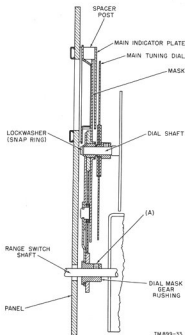

Figure 32. Dial mask assembly, sectional view.
Before attempting removal of the front panel of the receiver turn the chassis on its side and locate the dial mask gear bushing (figs. 32 and 34). Observe the position of the bushing and turn the RANGE switch until the bushing setscrew ((A) in fig. 32) is exposed in proper position to admit the setscrew wrench supplied with the receiver. Note the RANGE switch setting carefully; after reassembly of the receiver dial drive and panel, the switch and mask must be replaced and mated for the proper mask opening and switch setting. For disassembly procedure, see *a* below.
- (5) From the top rear of the receiver, remove the dial indicator plate by releasing the two screws that hold the plate to the spacer posts (figs. 32 and 33).
- (7) Removal of the front panel will expose the dial mask assembly (figs. 32 and 34). Loosen the setscrew (A) mentioned at the beginning of this paragraph, remove the two screws (B) that hold the assembly to the chassis, and remove the snap ring at the end of the dial shaft. The assembly is now free and can be removed; slip it from both shafts evenly to avoid burring the shafts.
- (5) Replace the panel and knobs, reversing the disassembly procedure given in a (1) through (6) above.
- (6) Set the RANGE switch to the position noted in accordance with instructions at the beginning of this paragraph. Observe the mask through the main tuning dial window and revolve the mask until the proper band slot and indication is exposed. When it has been accurately centered, tighten the gear sleeve (A) (figs. 32 and 34).
- (7) Turn the TUNING CONTROL until the main ganged tuning capacitors are fully closed. Turn the main tuning dial disk on its shaft until the hairline at the low end of the dial is aligned with the dial indicator plate hairline, and set the shaft screw lightly. Turn the vernier dial disk on its shaft until the 0 mark is under the vernier indicating hairline, and set that dial lightly also. When the two dials are set at the above positions, they are mated for logging as set at the factory. Exact calibration may be achieved by tuning a previously logged station; this should appear quite near the original position. Release the screws and reset the two dials for exact logging. The receiver should now track properly on the dials, provided the stations were logged when the receiver was properly aligned.
- (8) Reattach the dial lamp sockets as before removal.